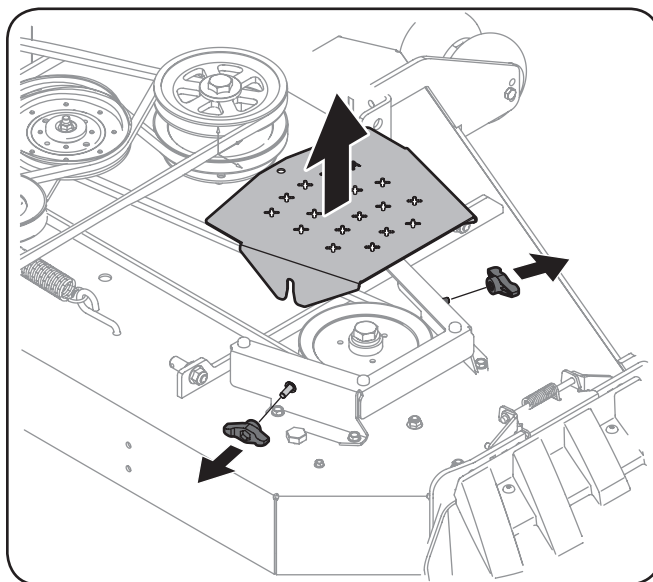

Figure 7-6
3. To remove the belt covers, remove the wing knob from the carriage screws securing it to the deck. See Figure 7-6.
4. The speed nut should hold the carriage screw and tab bolt in place, if not re-install as shown in Figure 7-6..